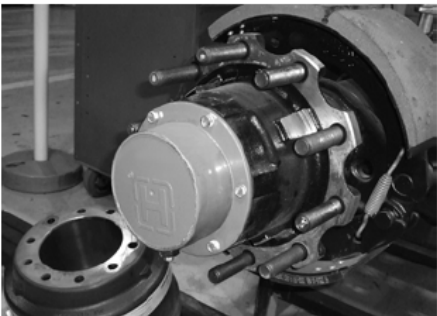

Figure 2: Brake drum removed
- A. If drum brake, remove brake drum (Figure 2).